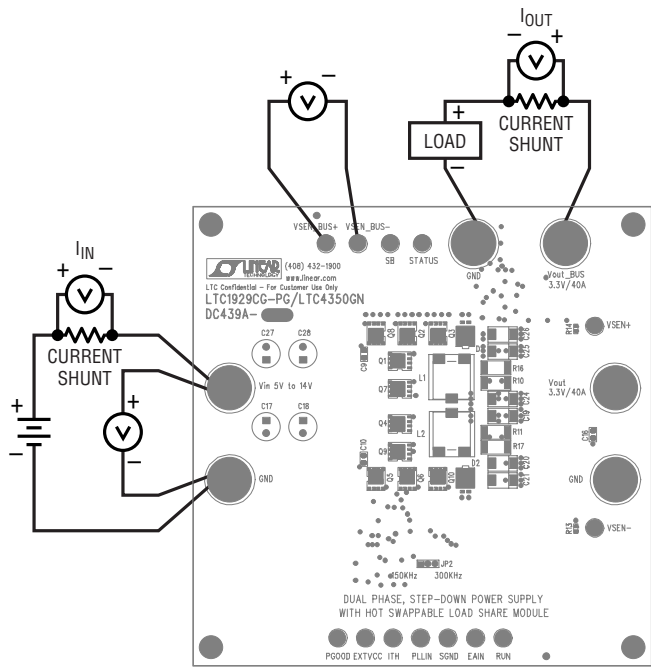

Figure 1. Proper Measurement Equipment Setup for Efficiency Test
Demonstration circuit DC439A-B is easy to set up to evaluate the performance of the LTC1929/LTC4350 for high current applications. Refer to Figure 1 for proper measurement equipment setup and follow the procedure below:
1. Place the jumpers as shown in the Figure 1.